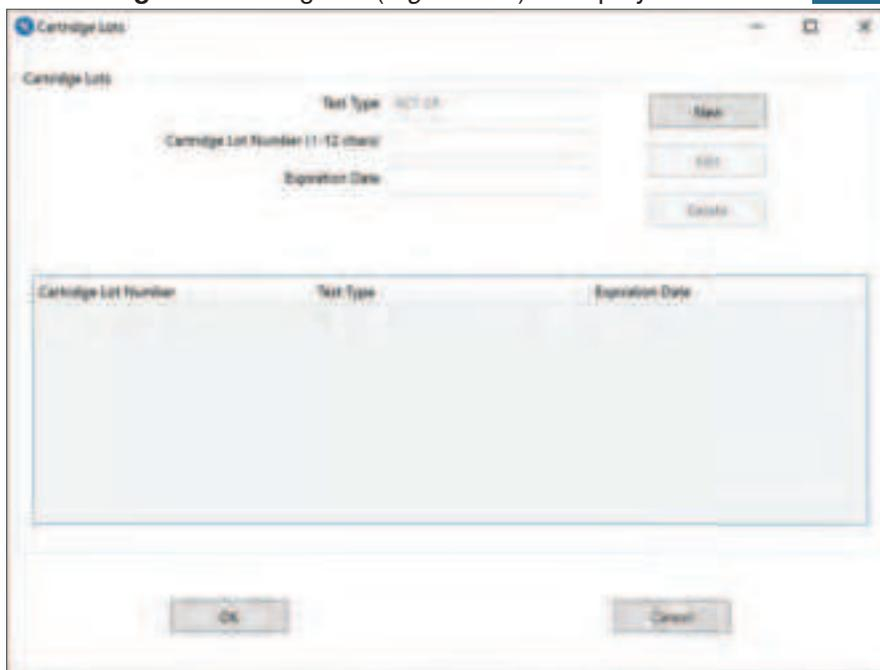

Figure 100: CCM – Cartridge Lots Dialog Box
- 1 Click the **Cartridge Lots** button. The **Cartridge Lots** dialog box (*Figure 100*) is displayed.
- 4 Click **OK** to save the changes (*Figure 100 (page 89)*).
NOTE: To edit or delete a test cartridge lot, select the test cartridge lot from the list (*Figure 100 (page 89)*) and the appropriate button (**Edit** or **Delete**).